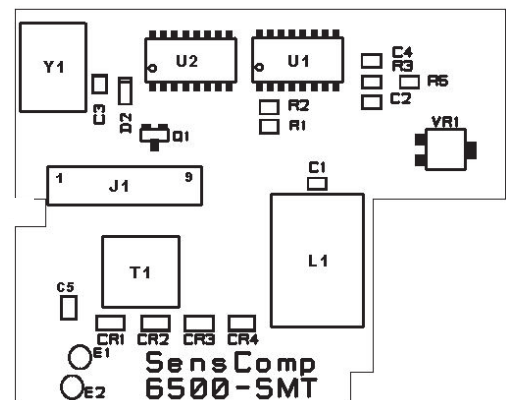

FIGURE 1-2 RANGING MODULE
- Either a 6500 or a 9000 Series Ranging Module circuit board (Figure 1-2).